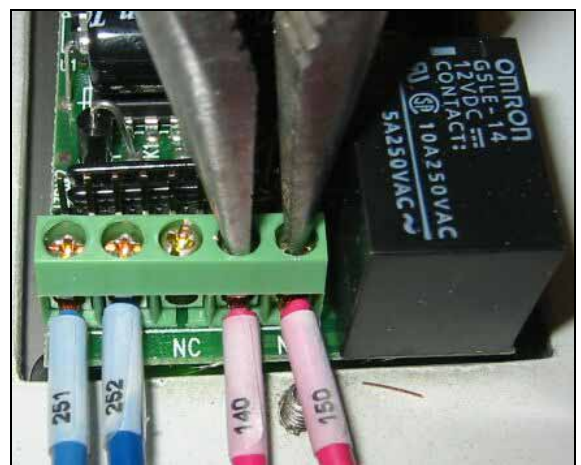

Figure 28, Using pliers to force system ON
- Step 6) Figure 28 shows how to short two contacts together with pliers. This will bypass the keypad and force the system to become active (the Start/Stop button will illuminate just as if a valid